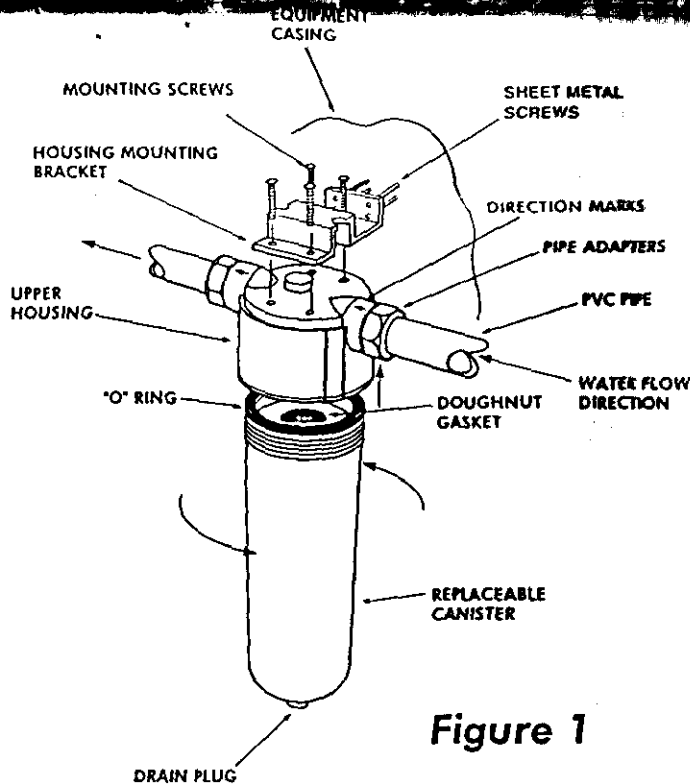

Figure 1
6. Drill four one-quarter inch holes in the evaporative cooling equipment casing using the mounting brackets as templates. Attach mounting brackets with sheet metal screws provided (Figure 1). If more than one IOBIO™ Control is required, locate the additional devices as close as possible to one another. Multiple devices are to be piped in parallel with piping arranged to provide equal flow resistance through each device (Figure 3).